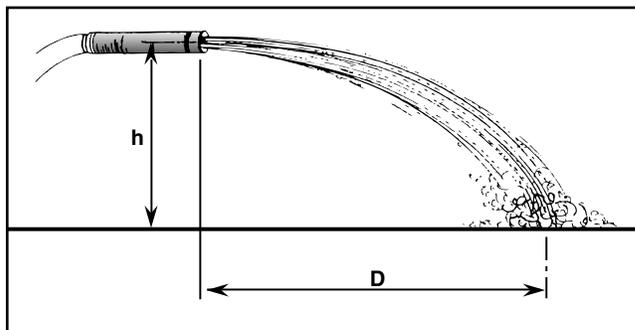

Figure C2—Relation of pipe exit to "h" and "D".
D. Measure the distance ("D") along the ground from the end of the pipe to where the water hits the ground. At the time of the measurement, the hose must be running full of water. Let a plumb bob hang from the pipe exit down to the ground. Start measuring "D" at this point. (See figure C2.)